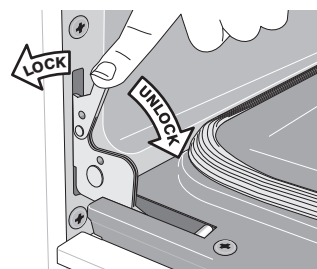

Figure 17: Door hinge locks
2. Pull the door hinge locks on both left and right door hinges down from the oven frame completely towards the oven door (See Figure 17). A tool such as a small flat-blade screwdriver may be required.
4. Push the door hinge locks up towards and into the oven frame on both left and right oven door hinges to the locked position (See Figure 17).